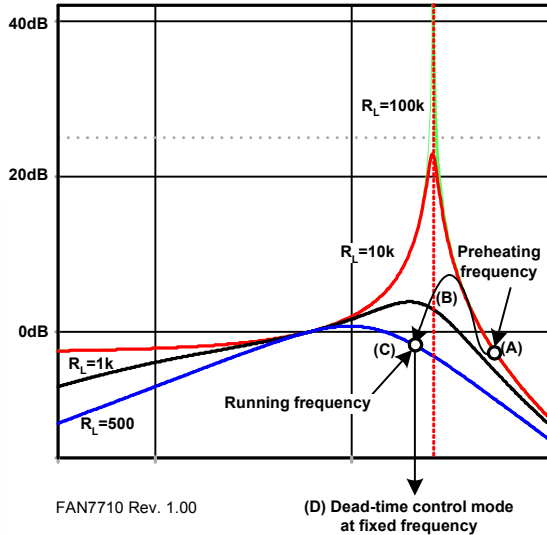

Figure 21. LCC Transfer Function in Terms of Lamp Impedance
Before the lamp is ignited, the lamp impedance is very high. Once the lamp is turned on, the lamp impedance significantly decreases. Since the resonant peak is very high due to the high-resistance of the lamp at the instant of turning on the lamp, the lamp must be driven at higher frequency than the resonant frequency, shown as (A) in Figure 21. In this mode, the current supplied by the inverter mainly flows through C_P . C_P connects both filaments and makes the current path to ground. As a result, the current warms up the filament for easy ignition. The amount of the current can be adjusted by controlling the oscillation frequency or changing the capacitance of C_P . The driving frequency, f_{PRE} , is called preheating frequency and is derived by:
After the warm-up, the FAN7710 decreases the frequency, shown as (B) of Figure 21. This action increases the voltage of the lamp and helps the fluorescent lamp ignite. The ignition frequency is described as a function of CPH voltage, as follows:
Finally, the lamp is driven at a fixed frequency by an external resistor, R_T , shown as (C) in Figure 21. If V_{DD} is higher than $V_{DDTH(ST+)}$ and UVLO is released, the voltage of the RT pin is regulated to 4V. This voltage adjusts the oscillator's control current according to the resistance of R_T . Because this current and an internal capacitor set the oscillation frequency, the FAN7710 does not need any external capacitors.
The oscillation frequency is not changed even in the active ZVS mode, shown as (D) in Figure 21. The dead time is varied according to resonant tank characteristics.